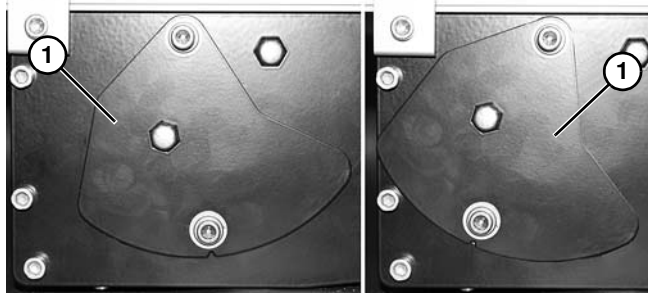

Figure 85
For a new belt, the tension plate (**Figure 85, item 1**) will be in position indicated below left. When the tension plate extends to position indicated below right, the conveyor belt must be replaced.